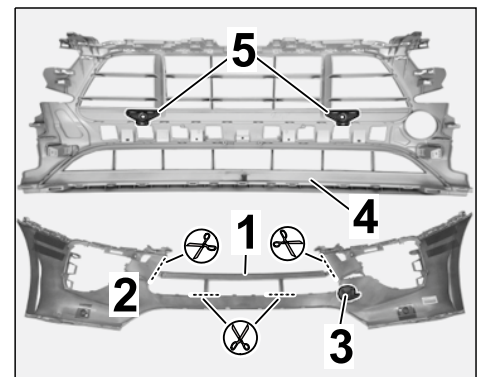

Figure 5
- 2.1 Cut out transport lock on front apron ( ⇒ *Figure 5*).